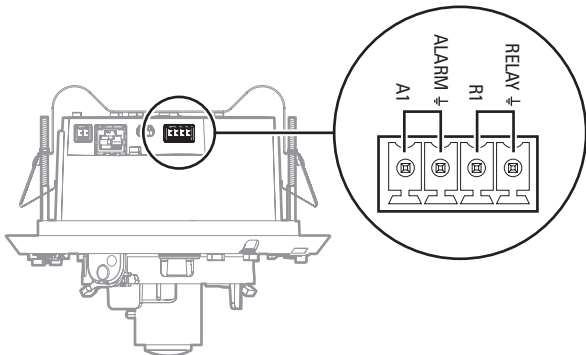

Figure 4. Alarm and Relay Wiring
4. Connect the necessary wiring for alarms and relays (refer to Figure 4). Only use the 24 VAC wires if PoE is not available.